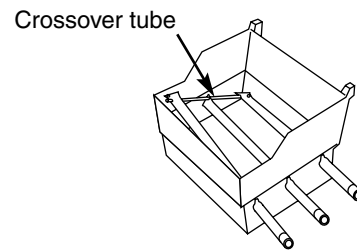

Figure 14
- h) Lift and twist the burner assembly slightly, to separate the crossover tube from the burners. Figure 14. Remove the burners from the cooking box.